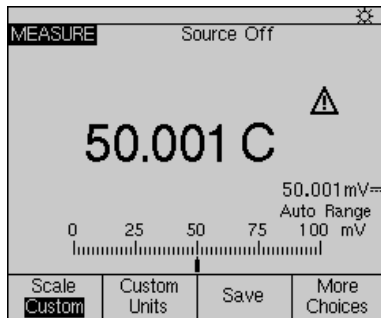

Figure 3.
If the decade relationship between native units (mV DC) and custom units (C) needs to be changed the  $\times 10$  and  $\div 10$  softkeys will do so. Depress the “Done” softkey and the DPC will now display in units of “C.” Figure 3 shows the DPC configured as described with the transducer measuring  $50^{\circ}\text{C}$  and the 50 mV output measured by the DPC. The triangular box with the ! inside in the custom unit indication, native units measured continues to be displayed in the “fine print” screen text in the lower right hand corner of the screen.